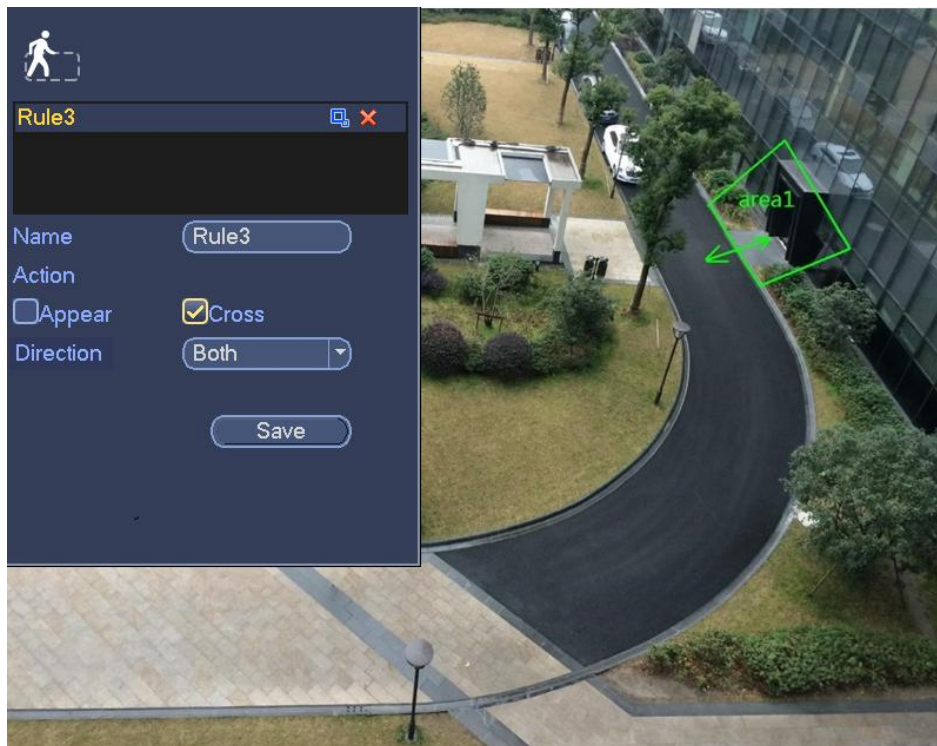

Figure 4-147
1. Click draw button  to draw the zone. See Figure 4-147.